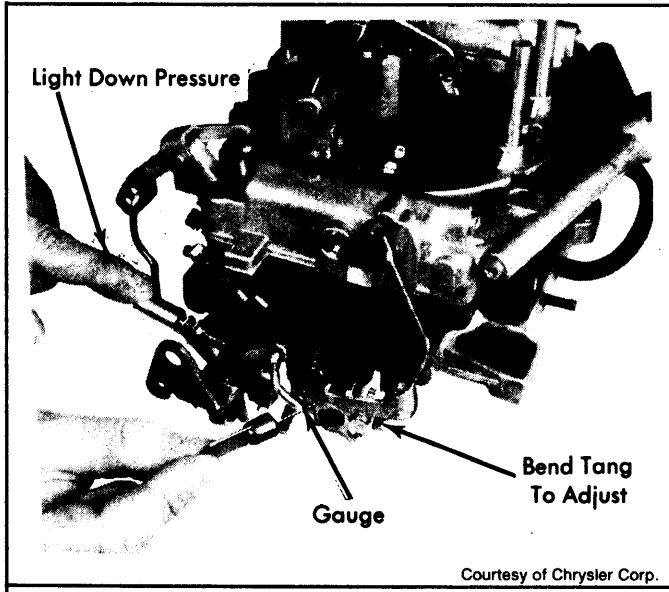

Fig. 16: Secondary Throttle Lockout Adjustment
1) Move fast idle control lever to wide open choke position. Measure specified clearance between lockout lever and stop. Clearance can be checked using a specified drill or pin gauge. See Fig. 16.